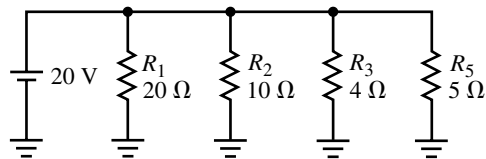

FIGURE 6-84
39. Refer to the circuit of Figure 6-84: